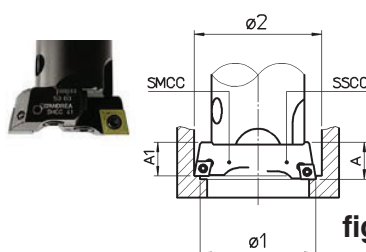

fig.2
- (fig. 2) an SSCC bit holder and an SMCC bit holder not at the same plane and with the two cutting edges set at different radial distances for high cutting depth roughing operations.